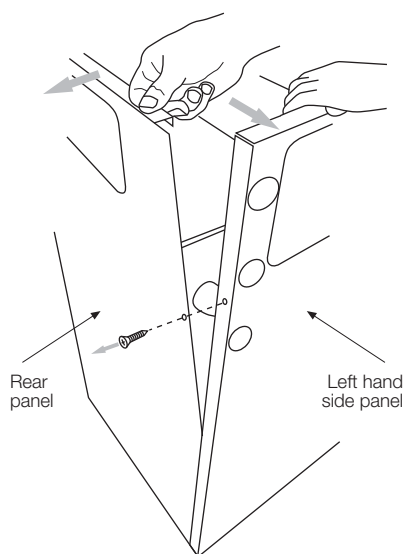

Figure 6-3: Gaining access to the condensate outlet
3. Carefully separate the left side and rear panels just enough to gain access to the condensate outlet on the left rear of the condensing heat exchanger (see Figure 6-3).